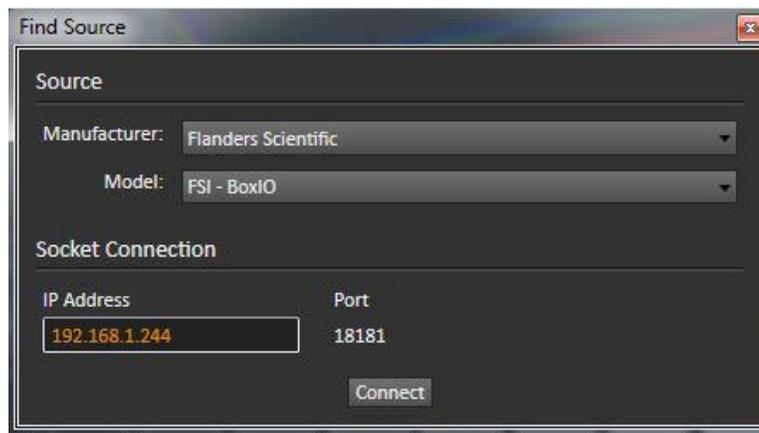

Figure 2. CalMAN Find Source dialog for connecting to the BoxIO as a test pattern source.
- On the *Find Source* dialog (Figure 2), under *Manufacturer*, select “Flanders Scientific.”